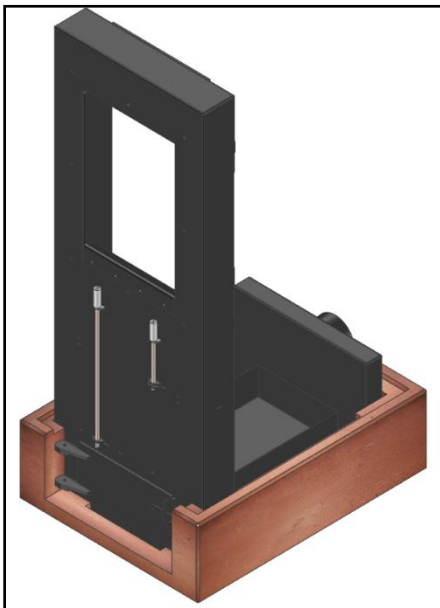
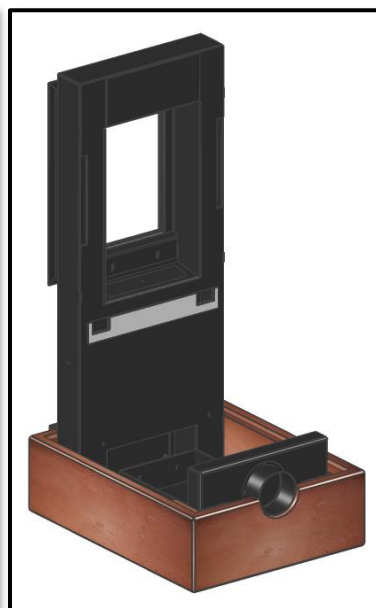
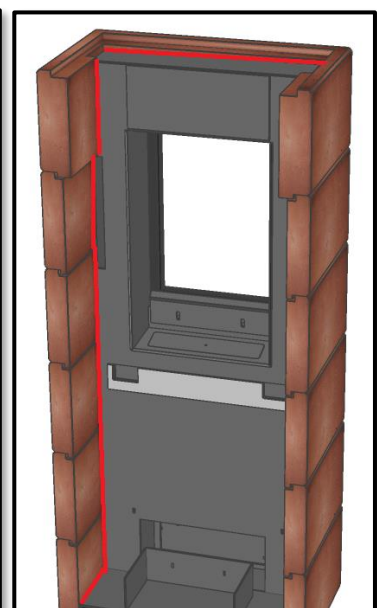

Fig.8
Fig.9
Fig.9a
3. Insert the appropriately prepared front into the first external element and place it on the ground (see Fig. 8). A gap is created between the lower part of the steel front and the internal walls of the first element, which must be sealed with stove-fitter glue during installation. Then, fresh air should be connected to the steel front using a \varnothing 100 mm pipe. It is possible to connect the air via a spigot located at the back (see Fig. 9) or underneath the steel front. If you need to connect the air from the bottom, unscrew the spigot from the back part and attach it from the bottom earlier, and screw the plug from the bottom to the back air opening. Connecting the air supply to the device from the bottom should be correlated with the location of the device in the room. When applying next segments, seal the inner corner of the connection between the steel front and the outer segments with high-temperature silicone - red lines (Fig. 9a) .